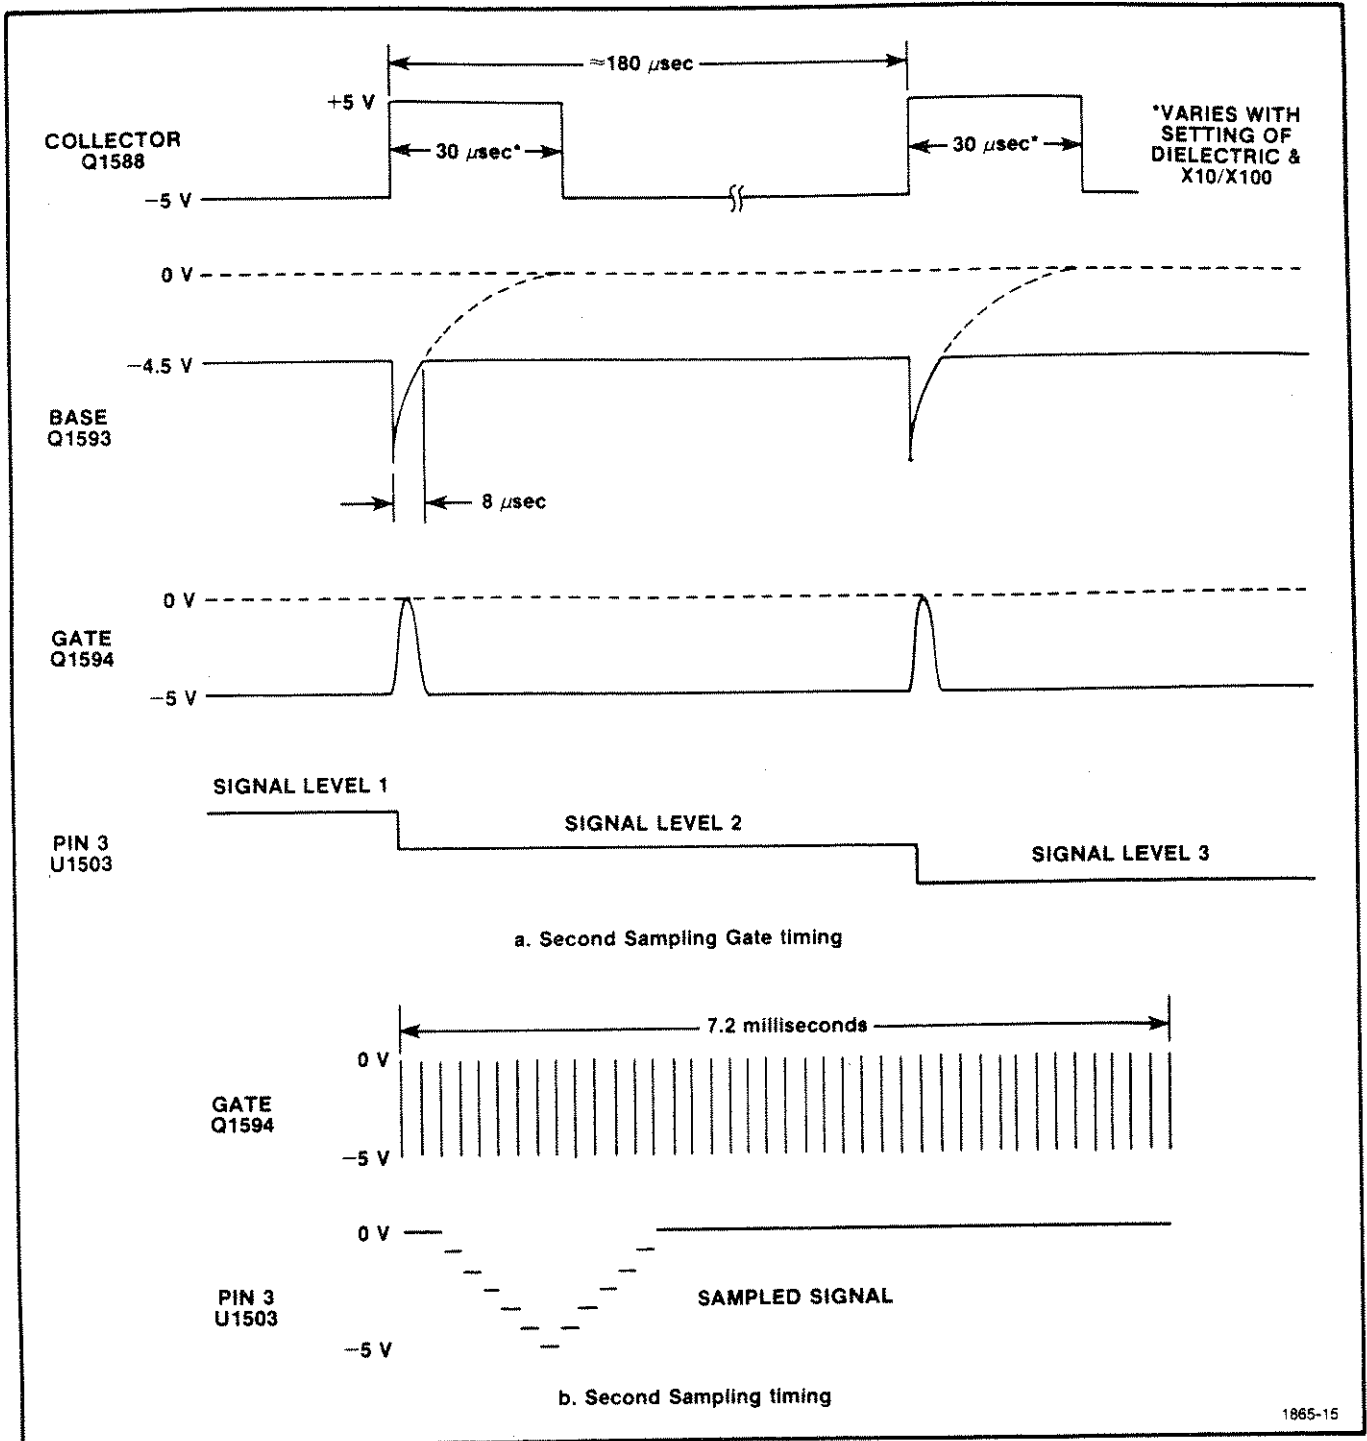

Fig. 3-4. Sampling Circuit timing.
**Second Sampling Gate.** Q1594 and U1503 comprise the second sampling gate. Second sampling is required to reduce the effect of unbalanced leakage current in the first sampling gate diodes. The output of the sampler comparator Q1578 is used to turn the gate on for about 8 ms, allowing C1593, the second memory capacitor, to charge to the level of the sampled signal. U1503 amplifies the level stored on C1593 and provides the discharge path for C1593 between charge times. Fig. 3-4 illustrates the timing of the second sampling circuits.